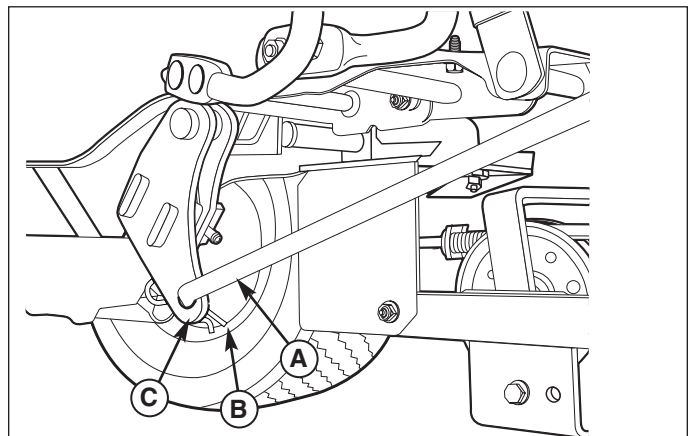

Figure 26. Lift Rod - Front
3. Connect the rear of the lift rod assembly (A, Figure 26) to the tractor lift arm extension (C). Secure with a hair pin clip (B).